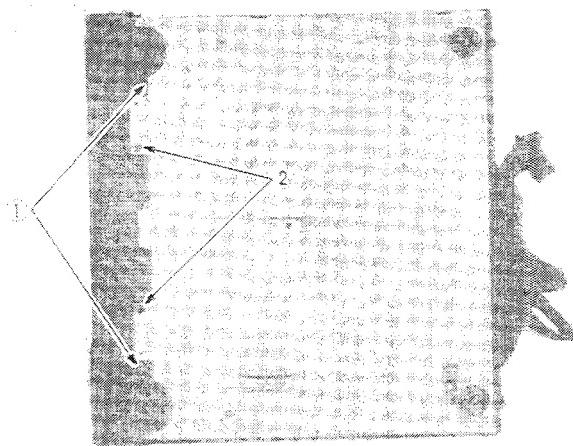

Fig. 2
- (1) Remove the two black screws ① fixing the panel from the bottom, then the two black screws ② fixing the mechanism. (Refer to Fig. 2)
- (2) Remove all connectors from the front panel.